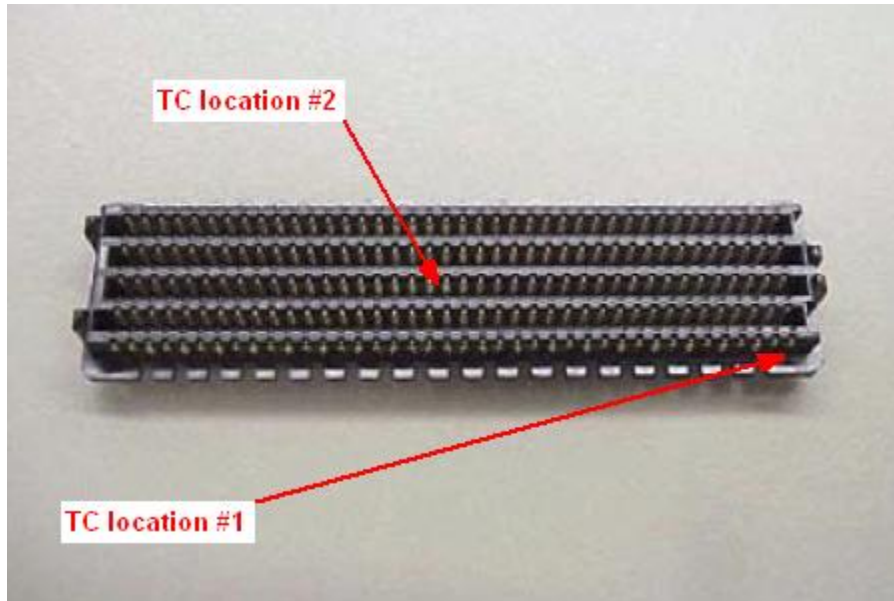

Fig. 6. Top side reference of thermocouple locations for reflow profiling.
- The importance of properly profiling the fully populated printed circuit assembly cannot be overstated. The reflow process that forms the solder joint is sometimes overshadowed by other processes but is critical to ensuring the solder charge reaches proper reflow conditions. Certain components can be sensitive to time and temperature, so both variables must be controlled and a thermal profile must be performed prior to processing or production. Thermocouples should be placed as close to the solder charge as possible (**underneath the part**) in the center and on the outside edge (see **Fig. 6**).